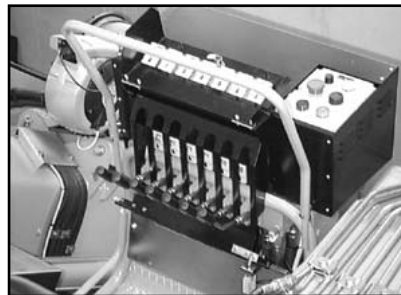
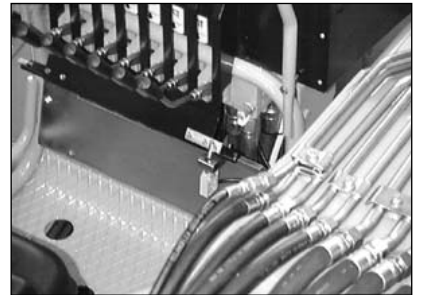

fig. 9
fig. 9a
- Close the box by taking it from the position of the fig. 9 to the one of the fig. 9d; The box is composed of two mobil parts, bring the lower part from the position of the fig. 9a to the one of the fig. 9b and overturn the upper part. The microswitch (fig. 9c) will now enable the crane controls.